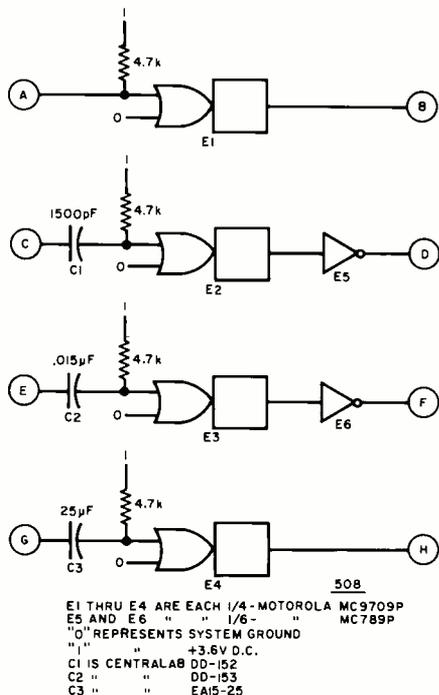

Fig. 11. Logic diagram of time-base input circuit shown in Fig. 3.
The time-base input (508) module (Fig. 11) conditions the 60-Hz, 100-kHz, 1-MHz, and 4-MHz input signals so that their levels and fall times are compatible with the requirements of the JK FF's in the time-base generator divider circuits. The coupling capacitors (Fig. 11) may be eliminated if the peak input signal excursions are less than ± 4 V with respect to ground and the input signal passes through 0.75 V and 1.4 V once each cycle. A sinusoidal input signal of about 500 mV r.m.s. is required if the capacitors are used. The 508 module diagram assumes that only one input signal will be electrically connected to the time-base generator at any given time; if this is not the case, then the three Schmitt triggers not associated with the desired input signal must be disabled. This may be accomplished by connecting